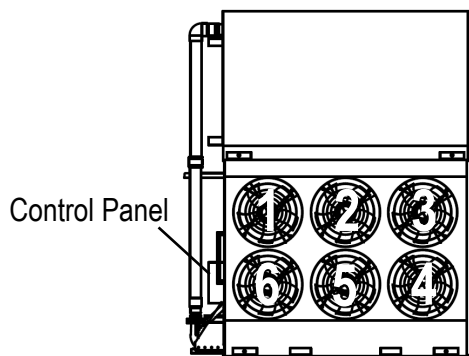
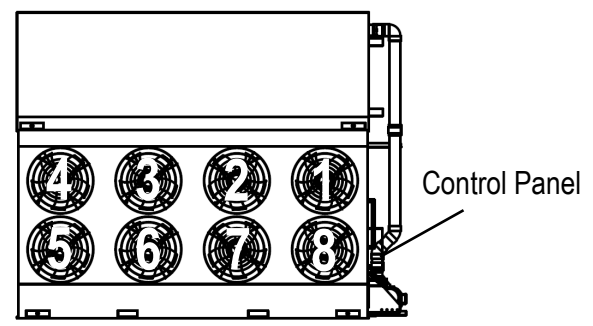

Figure 94. Right Hand 12' Long Unit Fan Addresses
Figure 97. Left Hand 18' Long Unit Fan Addresses
- Refer to **Figure 94** through **Figure 97** to determine fan address number assignment.
4. Change value Current addr to 247 and change value New addr to the appropriate fan address number assignment shown in **Figure 94** through **Figure 97**.